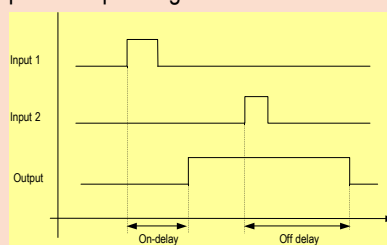

Fig. 3 Example for one effect of the pulse shaper stage
- in and output coupling: activation of a selectable visual display or an output relay through an input signal which can be modified optionally in time characteristics (also latching see Fig. 3), or can be extracted from the logic operation of several input signals.